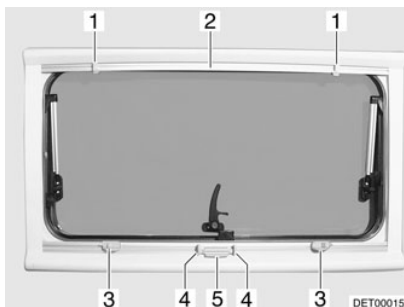

Fig. 23 Hinged window
- Press handle (Fig. 23,4) and draw the blind (Fig. 23,5) from the bottom to the top up to the desired height.
- Clench the handle (Fig. 23,4). The latch is released.
- Slowly guide blind (Fig. 23,5) back.
- Pull the insect screen (Fig. 23,2) down until it touches the blind (Fig. 23,5) and the closure latch (Fig. 23,1) engages in the locking device (Fig. 23,3).
- Release both locks (Fig. 23,3) simultaneously.